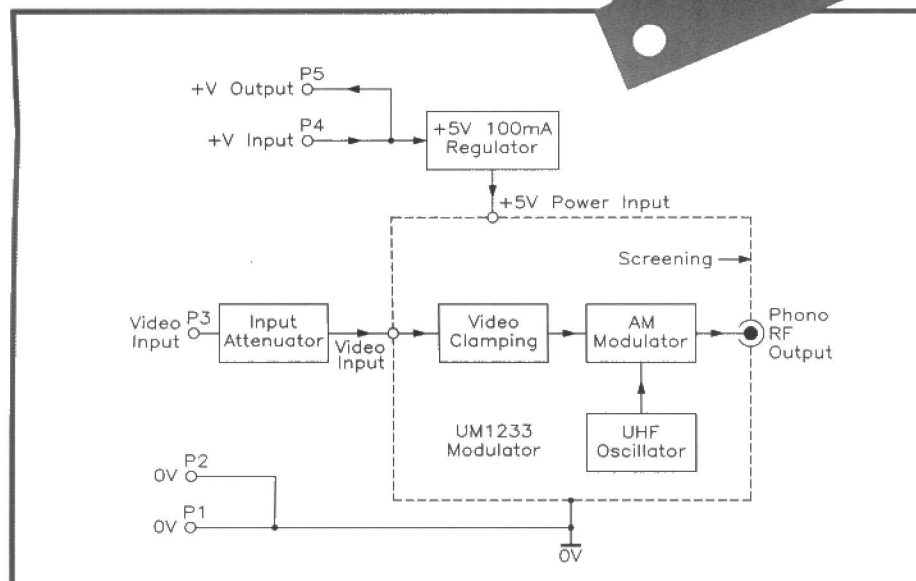
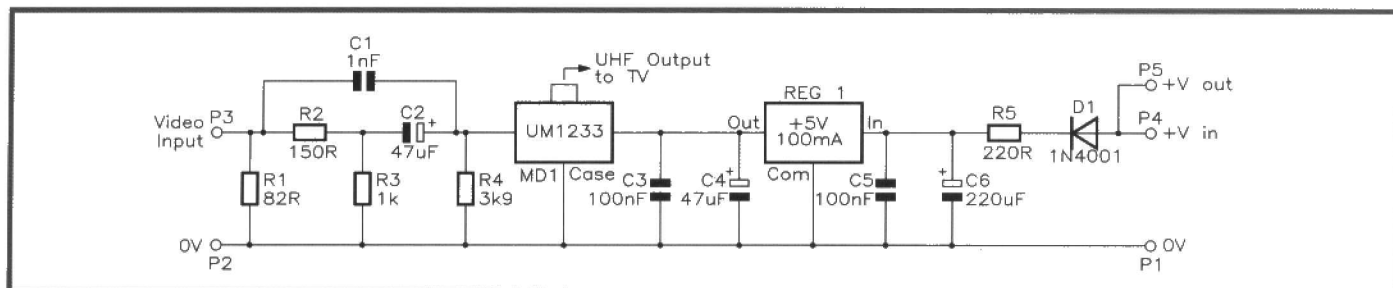

Figure 1. Block diagram of the CCD Camera Modulator.
Figure 2. Circuit diagram of the CCD Camera Modulator.
In addition to the block diagram detailed in Figure 1, the circuit diagram is shown in Figure 2. This should assist in following the circuit description or fault finding in the completed unit.
As can be seen from the block diagram in Figure 1, all the main signal processing circuits are contained within the UHF modulator block MD1. All the stages are powered from a common +5V supply, RG1, with the 0V ground connection made to its metal screening can. The incoming video information is first passed through a signal clamping circuit. This is to ensure that if overdriven, the RF output of the modulator will not completely break up. The video information is then applied to an amplitude modulator (AM) stage, which receives the output from a RF oscillator running at a frequency of approximately 591.5MHz (TV channel 36). Now the video signal is superimposed on the RF carrier it can be taken out, via the phono connector, to a standard colour or monochrome (black and white) UHF television receiver.